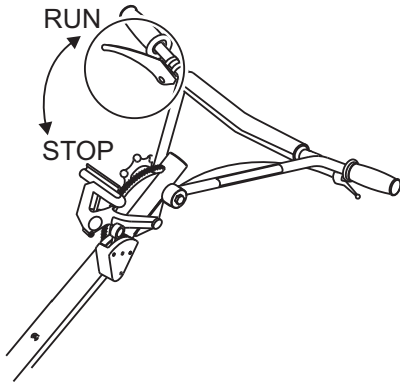

Figure 28. Operator Presence Lever (Run Position)
- To begin troweling, while holding onto the handlebar grips, grasp and pull in the Operator Presence Lever if so equipped. (Figure 28).